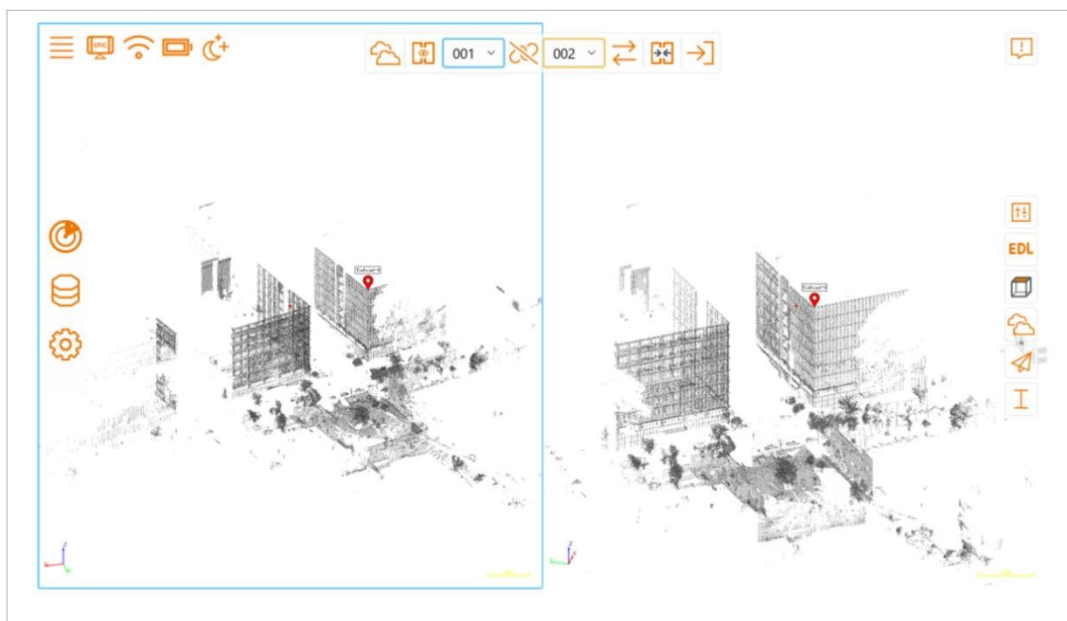

Figure 4-14 Manual Registration
- ①  Reference Scan & Moving Scan: Select the “Reference Scan” and “Moving Scan”. Tap the central “Disconnect  ”to break the current registration link. The button will then change to “Connect  ”, which can be clicked to re-establish the registration link.
- ②  Swap Scans: Invert the designations of the current "Reference Scan" and "Moving Scan".
- ③  Register: Start the registration process between the selected “Reference Scan” and “Moving Scan”.
- ④ Tap  to open “Pick-point Alignment” interface. Select corresponding points within this interface to perform manual cloud-to-cloud registration. The button then changes to “Point Cloud View  ”, to toggle back to the standard point cloud display interface, as shown in Figure 4-14.